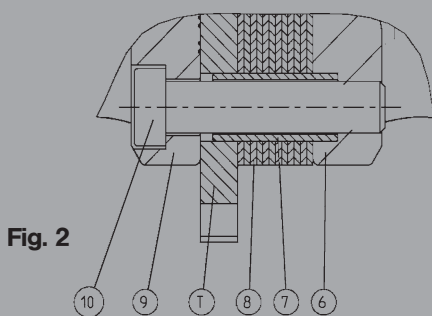

Fig. 2
- Slide 8 corresponding to T max. (see table) from inside onto 10: T max. 36 mm, 1 x 8:2 mm (Fig. 2)